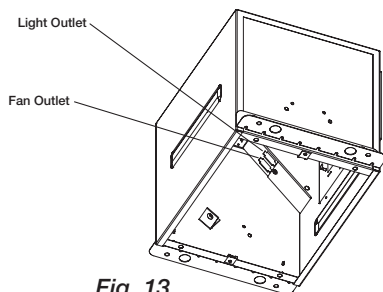
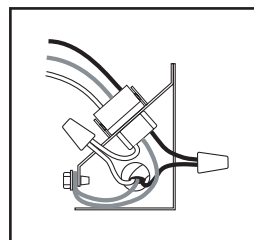
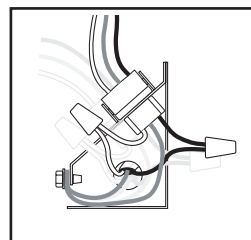

Fig. 13
Fig. 13a
Fig. 13b
1. Remove wiring cover. If fan/light combination is being used, make sure the fan plug is connected to the fan receptacle and the light plug is connected to the light receptacle as shown in Fig. 13. Using proper wire connectors, wire the fan as shown in Fig. 13a. For wiring of light proceed to Fig. 13b.